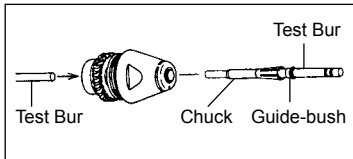

Fig. 12
- ③ When the rotor nut is loose. Push out the chuck carefully with a dummy bur or the bur shank from the back of the cartridge, the Guide-bush and the chuck will come out (Fig.12).